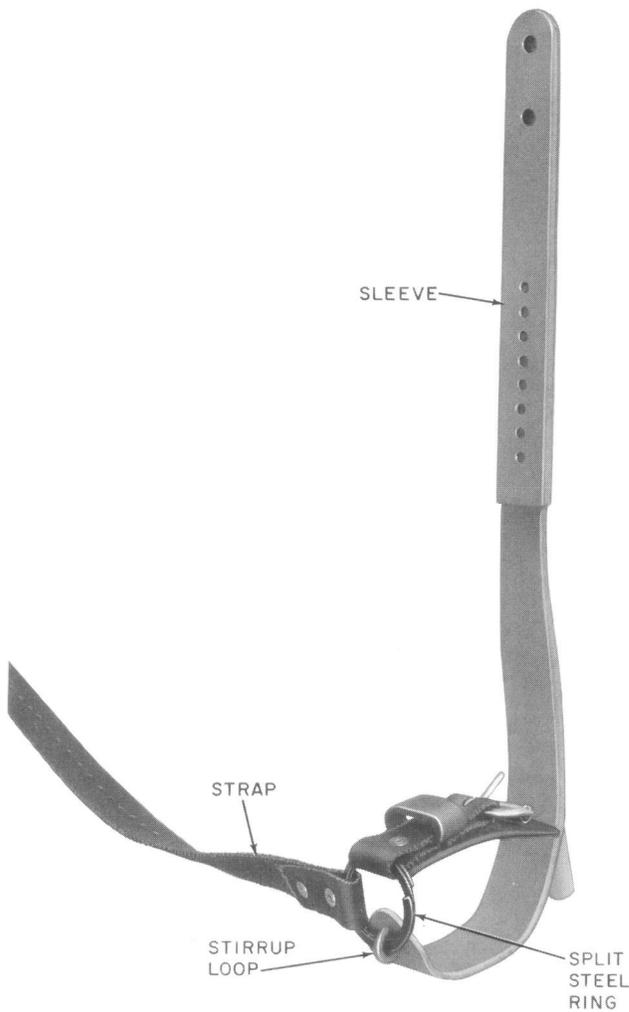

Fig. 5—Foot Straps Attached to Climbers
2.10 The foot straps are attached to the climber so the buckle assembly will be across the foot instep when fastened. Figure 5 shows the foot strap on the climber.